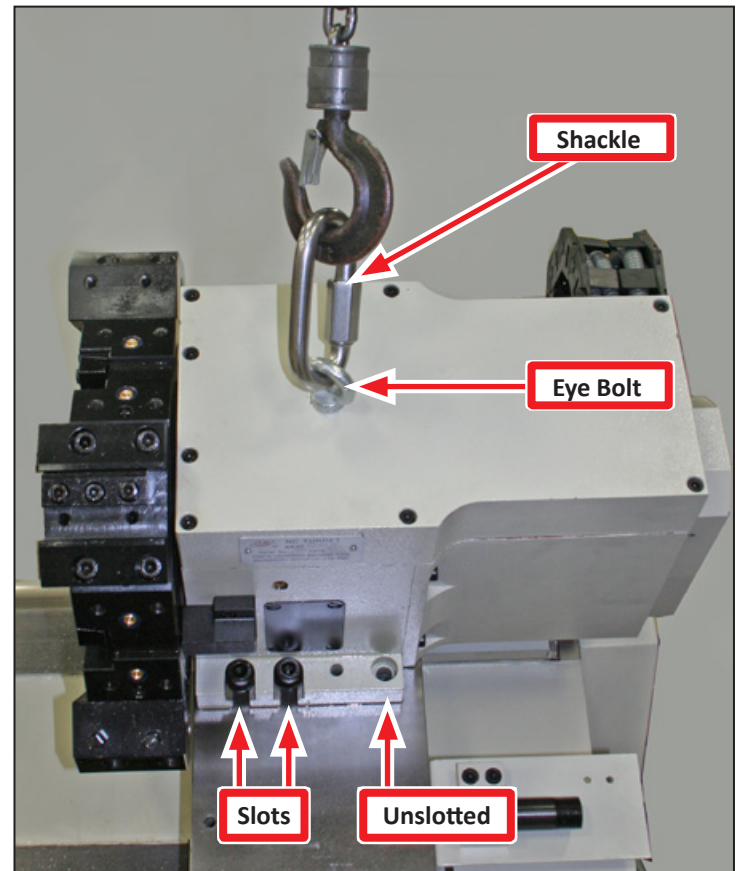
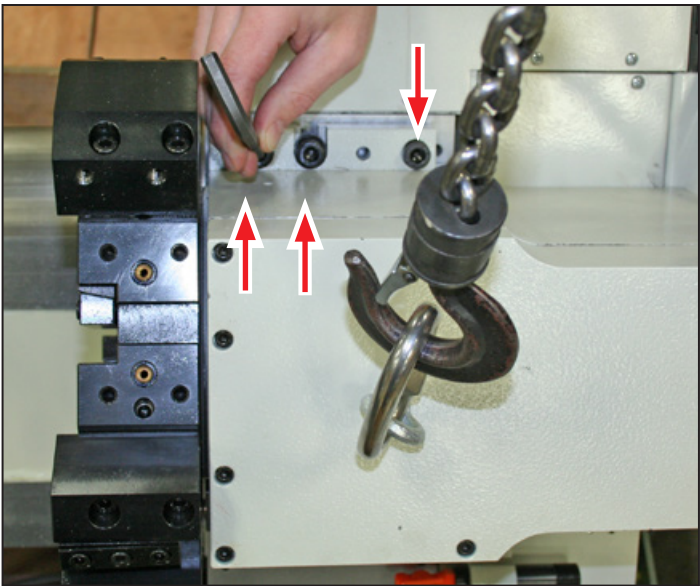

Figure 2
Figure 3
1. Screw the Eye Bolt tightly into the turret and attach the Shackle as shown in **Figure 2**.
3. Use an 8 mm hex wrench to screw two M10 x 30 mm Socket Head Cap Screws two-thirds of the way into the two slots as shown in **Figure 2**. Do not install the M10 Flat Washers.
4. Use a lift system to lower the turret onto the two screws installed in the slots (see **Figure 2**).
5. Install the remaining four M10 x 30 mm Socket Head Cap Screws and M10 Flat Washer into open positions on the front and back of the turret (see **Figure 2** and **Figure 3**).
- 10. When the turret is completely secure, disconnect the lift system from the turret’s eye bolt (see **Figure 3**).